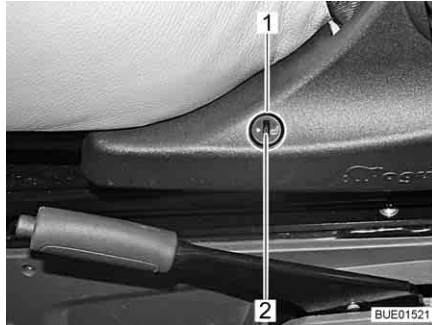

Fig. 26 Seat heater switch
- Press the lower half of the switch (Fig. 26,1) on the left side of the seat console.
- To lower the heat output, turn the adjustment wheel (Fig. 26,2) towards "0".
- To increase the heat output, turn the adjustment wheel (Fig. 26,2) towards "5".
- Press the upper half of the switch (Fig. 26,1) on the left side of the seat console.